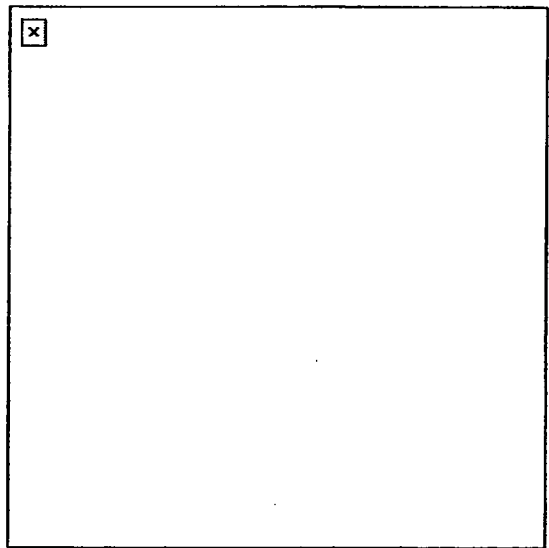

Figure 7. Crossing of an obstacle.
- (1) Before crossing a wall or fence, look at and beyond it for booby traps, enemy positions, and covered or concealed positions.
- (2) Move rapidly to the obstacle and roll quickly over it, keeping the lowest silhouette possible. Speed and a low silhouette deny the enemy a well-aimed shot.
- (3) Move rapidly to the nearest position while maintaining a low silhouette with the weapon at the ready position (Figure 7).